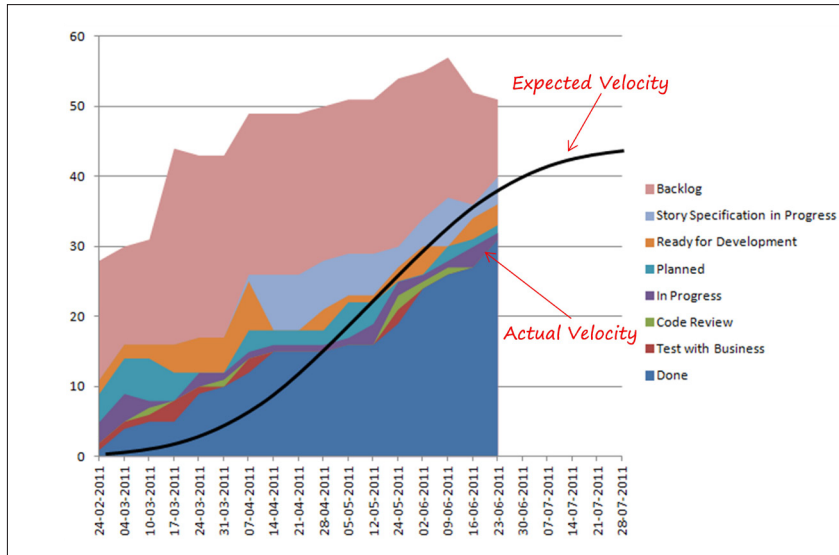

Fig. 20 Release Plans Visualized on the Cumulative Flow Diagram
Figure 20 shows an example of a S-Curve on top of a CFD. As you can see, the backlog was expected to increase by around 40 percent (from experience), from 28 to 40 points, but at one point had grown to more than double the size (57). While starting out with a higher than expected velocity, velocity dropped half way through the release (in this case because of quality problems).